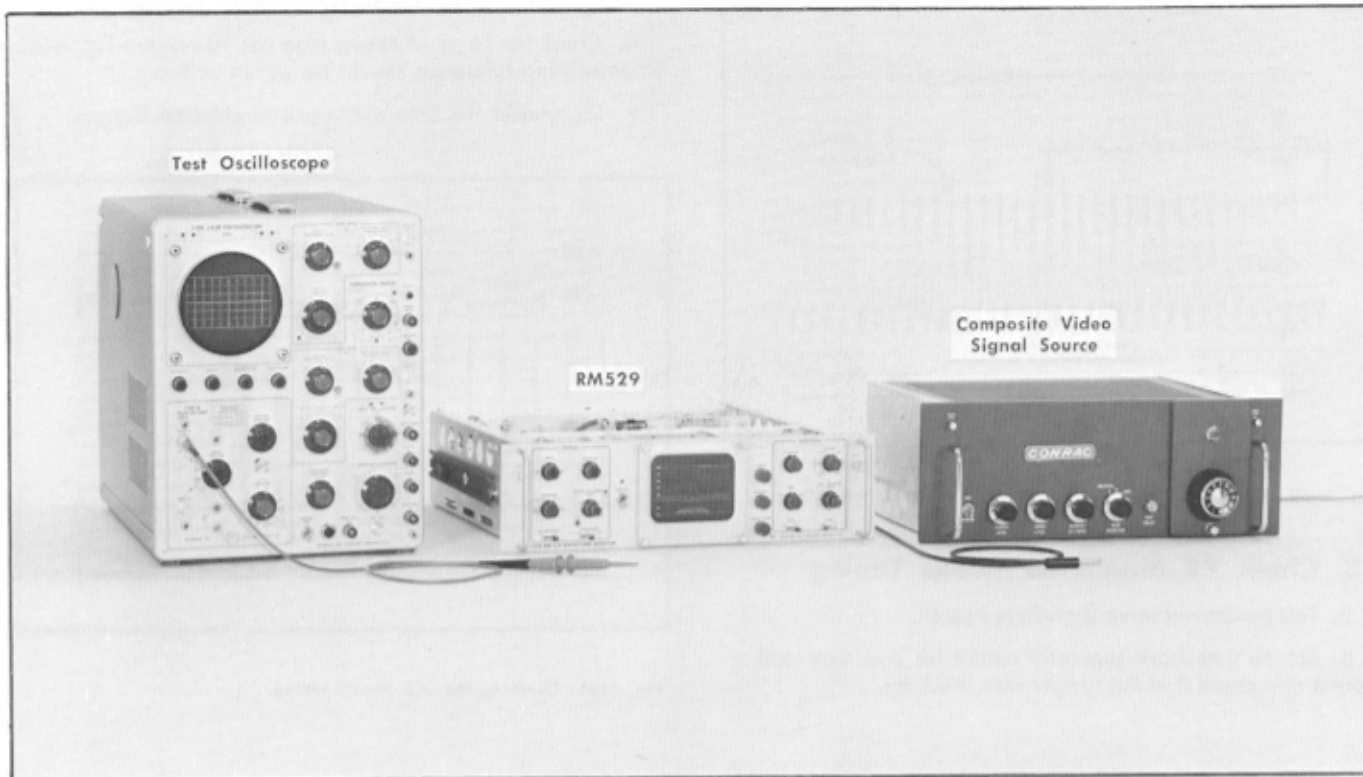

Fig. 6-22. Test equipment required for steps 19 through 21.
**19. Adjust FIELD 1 SYNC (R360)** ❶
- a. Test equipment setup is shown in Fig. 6-22.